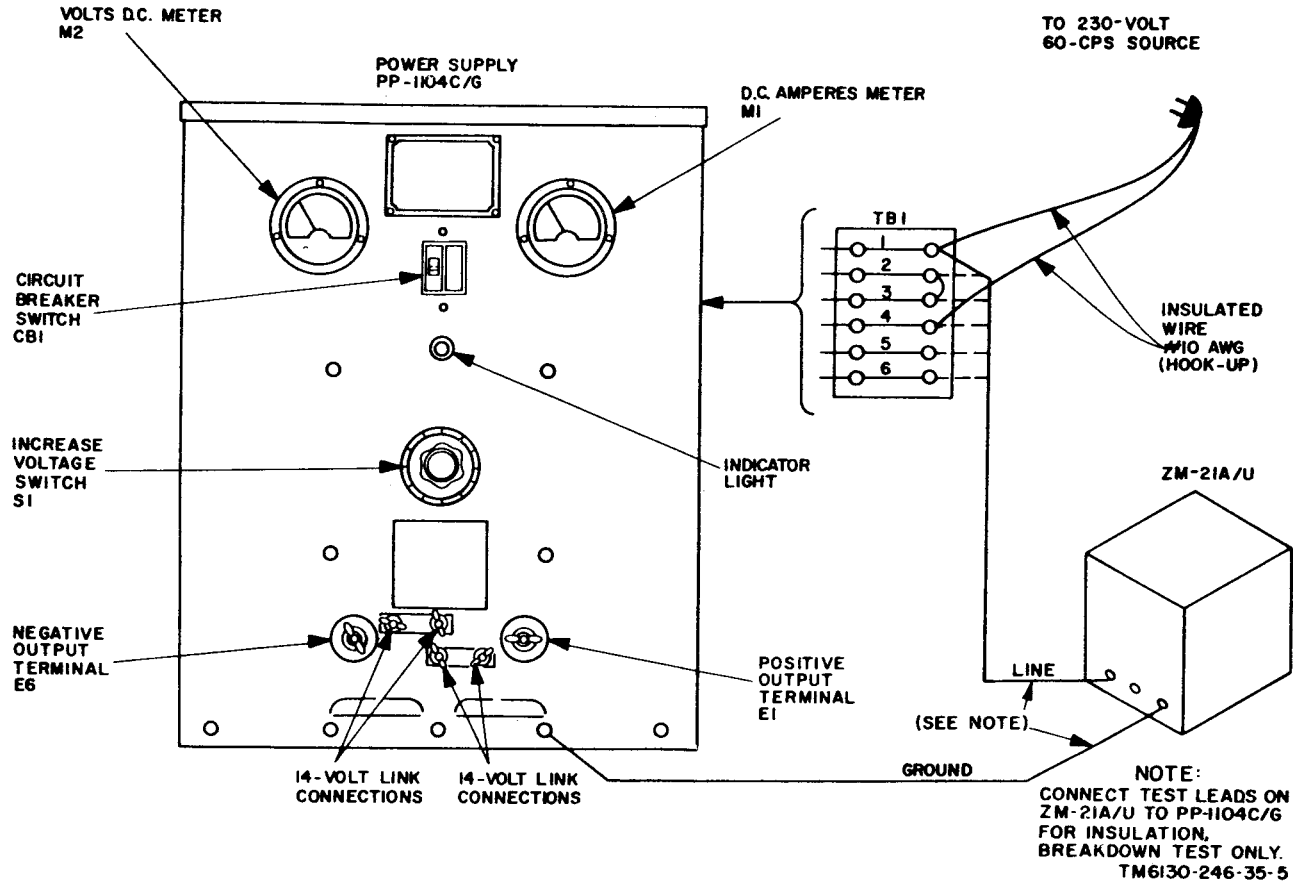

Figure 4-3. Two hundred and thirty-volt operation and insulation test connection diagram.
*b. Test Connections and Conditions.* Connect the equipment as shown in figure 4-3. Do not connect the test leads on ZM-21A/U to PP-1104C/G until instructed to do so in step 2 of the procedures given in *c* below. This test is written for 230-volt ac operation.